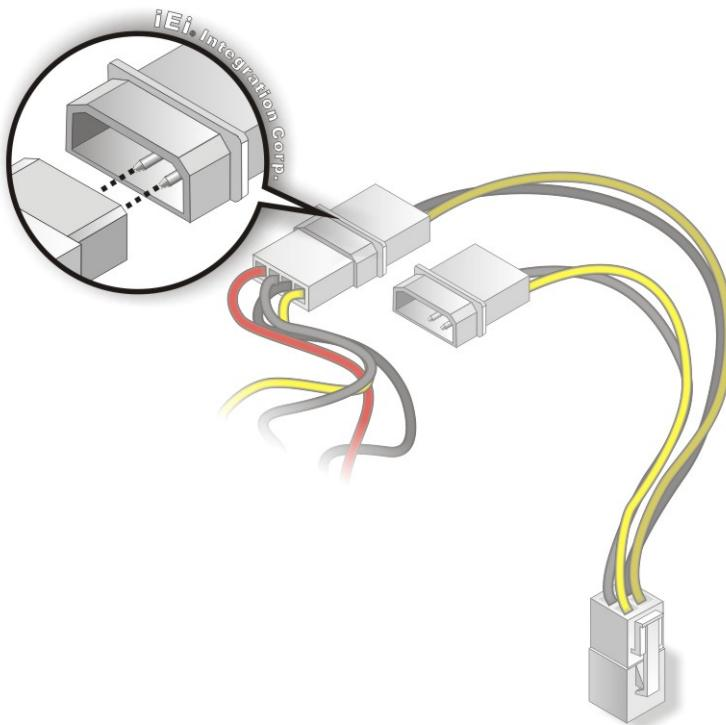

Figure 4-16: Connect Power Cable to Power Supply
Step 3: Connect Power Cable to Power Supply. Connect one of the 4-pin (1x4) Molex type power cable connectors to an AT/ATX power supply. See **Figure 4-16**.